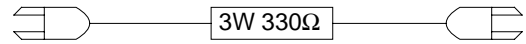

Fig. 2
1. Short-circuit the cathode side of D927 and the GND of the DECK ASSY using the jig shown in Fig. 2.
Note2: Short-circuit the Shield Case and the cathode side of D927 using the jig shown in Fig. 2 before attaching the DECK ASSY.